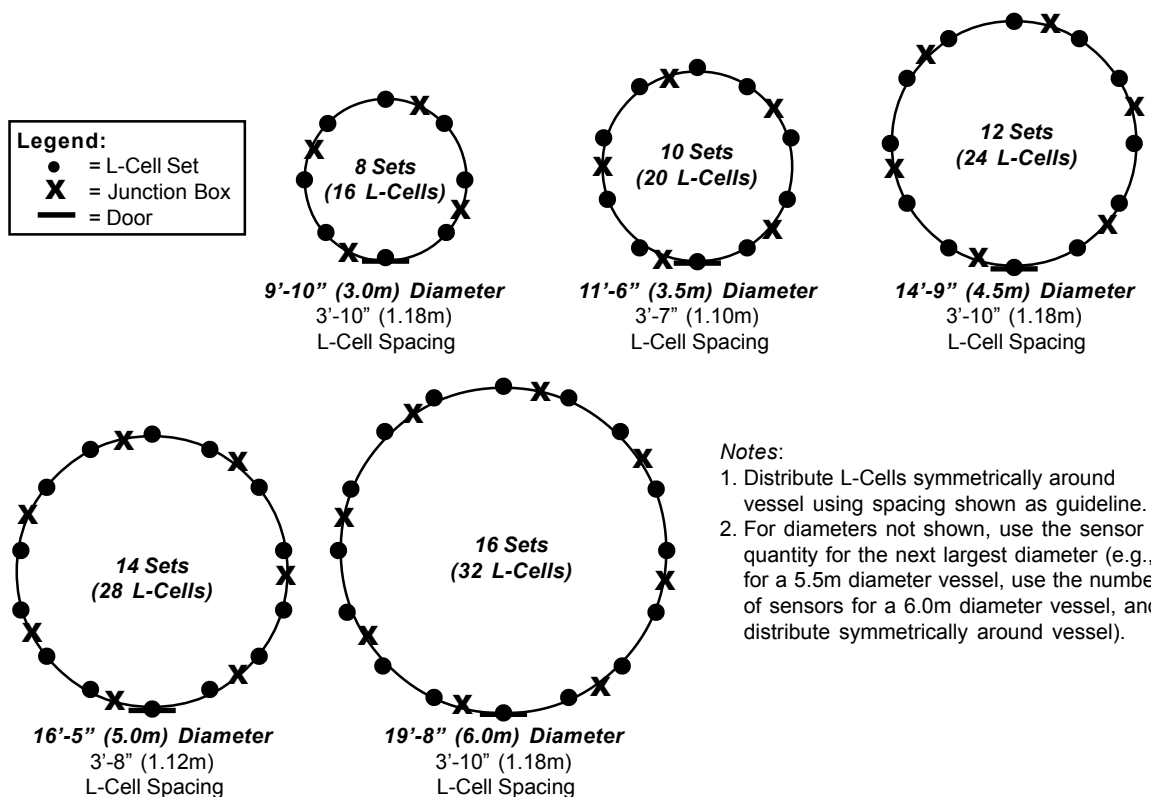
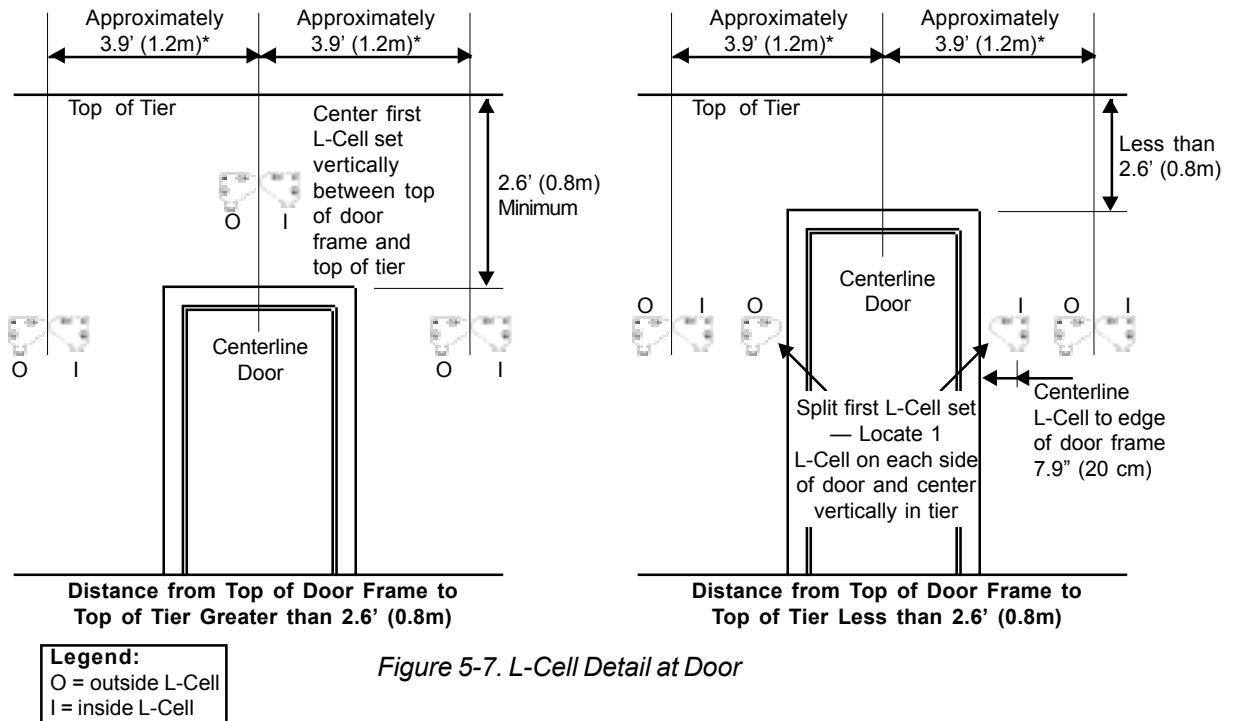

Figure 5-5. Plan View — L-Cell and Junction Box Locations (Aluminum)
Figure 5-7. L-Cell Detail at Door
See Figures 5-5 and 5-6. Typical aluminum skirt-supported vessel sizes are shown in Figure 5-5. L-Cells are placed symmetrically around the vessel, with a maximum spacing of 4' (1.2m) between L-Cells. Typically, the tiers are 6.6' to 8.2' (2.0 to 2.5m) high, and the L-Cells are placed at the vertical centerline of the tier.
See Figure 5-7. Place the first L-Cell set at the centerline of the door, or place one L-Cell at each side of the door.
1. From Figure 5-5, for a 3m diameter vessel, the spacing between sensors is approximately 1.18m. Locate L-Cell sets at 1.18m spacings around the vessel, for a total of 16 L-Cells (8 locations x 1 L-Cell set/location x 2 L-Cells/set). From Figure 5-7, center the first set above the door.
\*Note: See Figure 5-5 for spacing, which is dependent on skirt diameter.